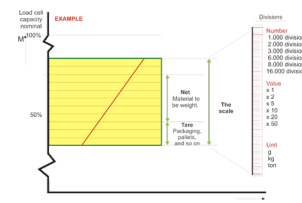

Figure 6. The digitalisation of the weight.
- As a next step the data must be digitized. This way readable weight information, suitable for further processing and automation, is displayed. The digitization takes place in display units or divisions. All our instruments are suitable for 10 000 divisions. So, see figure 6, if the scale shown here would have a capacity from 0 to 10,000 kg, the weight can be displayed per 1 kg.